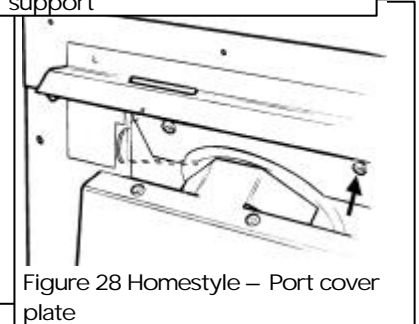

Figure 28 Homestyle - Port cover plate
9.2.3 Fit the port cover plate to the convection box by removing the screw shown in figure 28, placing the cover plate over the top of the outlet ports and securing using the longer screw supplied with the port. Do not screw fully home. Do not allow the cover plate to bend too much. See figure 28.